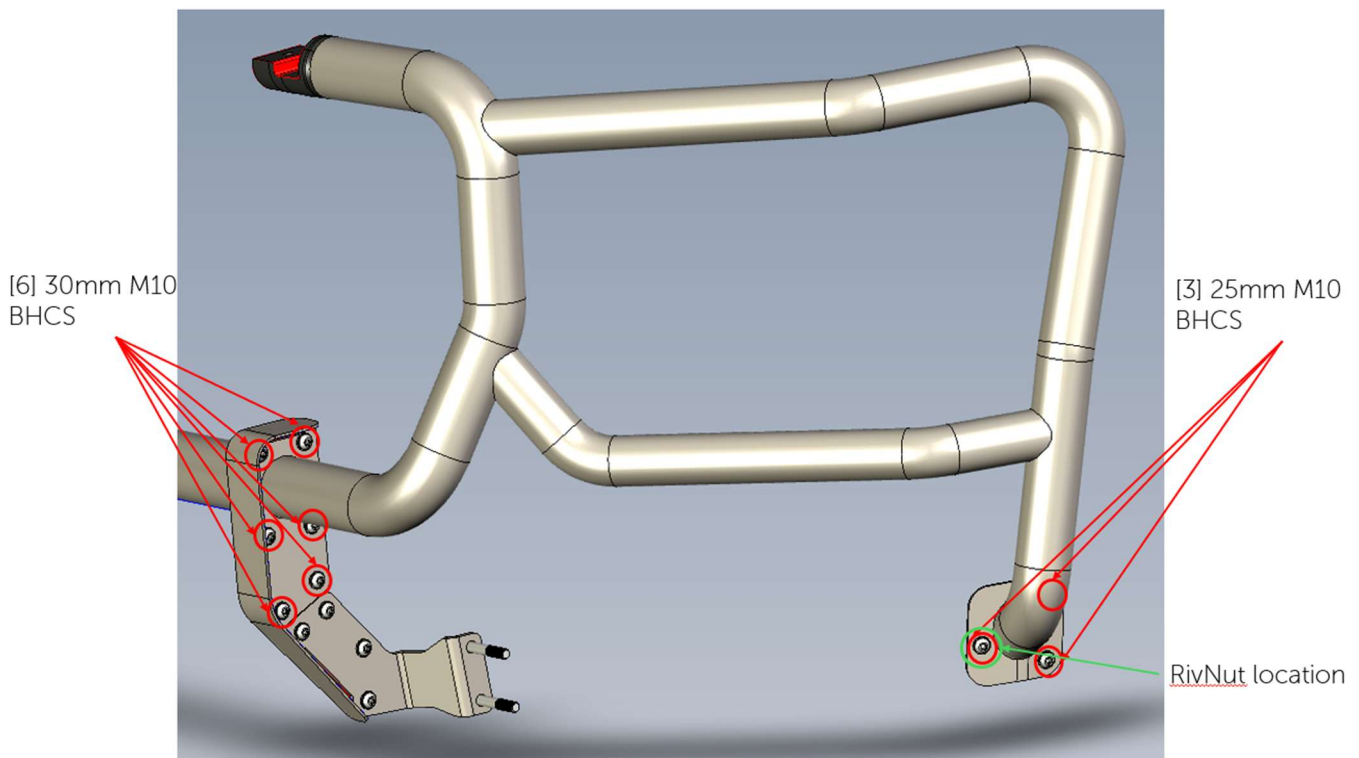

Figure 24
1. Loosely position or install RH/LH Corner Weldment on the Lower Section assembled. Mark 3 holes from part onto bumper planned to be drilled. See Figure 24
3. With RivNut and tool provided, install RivNut in forward most location of corner weldment as shown in Figure 24.